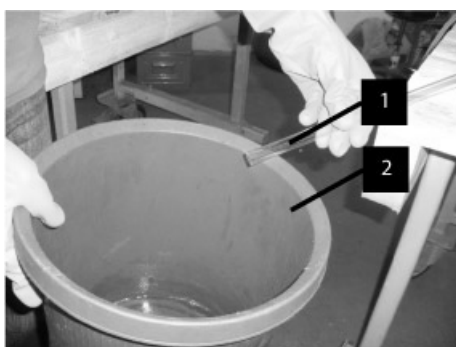

Fig. 50
4. By use of the level indicator (Fig 50/1) collect the water in a suitable container. The drained water must be disposed of according to the local regulations and must not be reused.